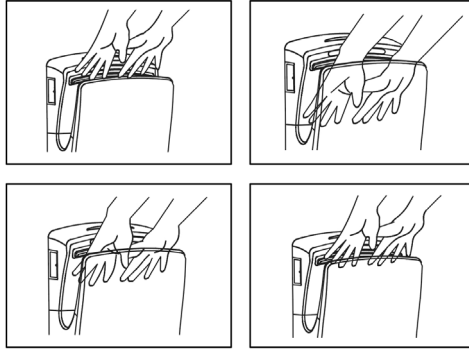

Figure 6
- Place hands into the aperture (see fig.6).